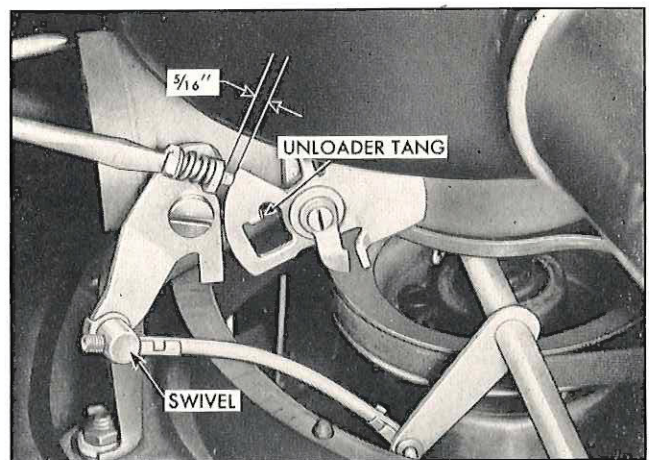

Fig. 10—Fast Idle Adjustment
4. Remove the clip attaching the fast idle swivel to the fast idle lever (fig. 10).
6. Rotate the fast idle cam counterclockwise (viewed from left of vehicle) until the fast idle screw rests on the highest portion of the cam (fig. 10).
7. Holding the screw and lever in this position, adjust the swivel on the fast idle link until the swivel pin will just enter the hole in the fast idle lever. Clip the swivel and link in position (fig. 10).